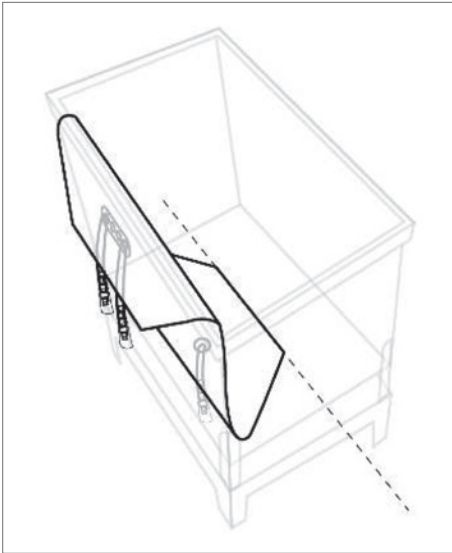

Fig. 16
13. Check that the K-seal of the Flexsafe® 3D bag is correctly positioned along the centerline of the Palletank® and parallel to the front and back of the container (see Fig. 16).